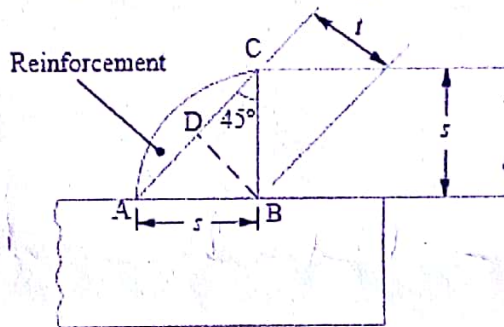

Fig. Q6 (a)
- (a) From Fig.Q6 (a), the length of each side is known as a Leg or size of the weld and the perpendicular distance of the hypotenuse from the intersection of legs (i.e. BD) is known as throat thickness. The minimum area of the weld is obtained at the throat BD, which is given by the product of the throat thickness and length of weld.